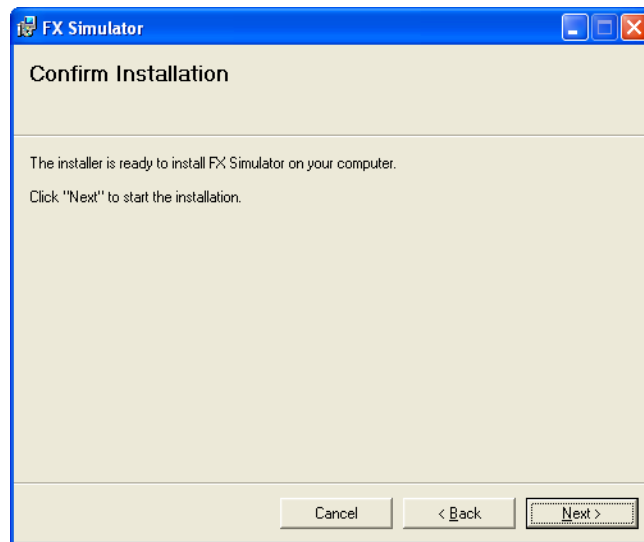

**Figure 13: Security Warning**
**Note:** If this Security Warning appears, click Run to continue the installation (Figure 13).